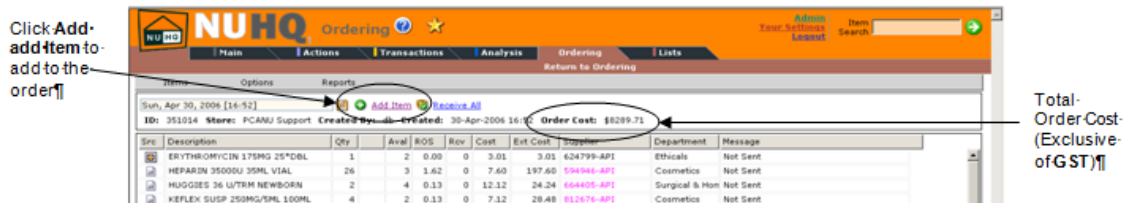

Figure 9: Adding Additional Items
- Click the **Add** option to add additional items to this order or adjust quantities in the **quantity ordered** column refer to, Figure 9
Before you begin it is always advisable to make a quick check of the total order cost , refer to figure 9 and compare this to the total invoice cost for your order (exclusive of GST).